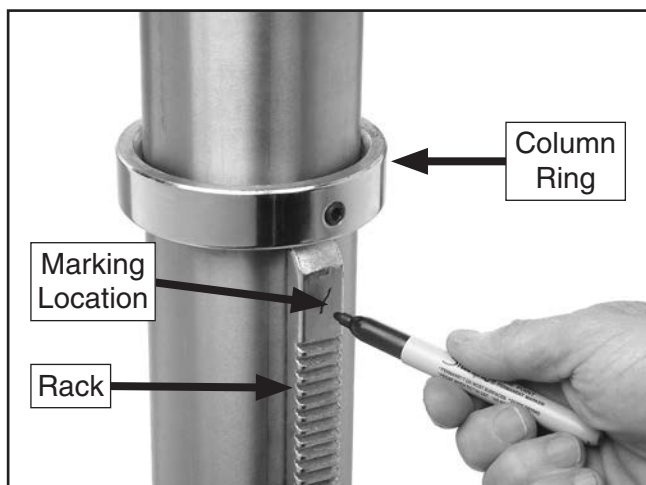

Figure 14. Marking top of rack to show which end is up.
- Mark top of rack, as shown in **Figure 14**, to keep track of which end is up.